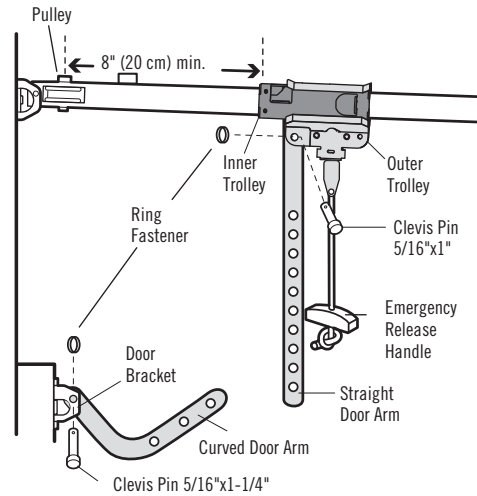

Figure 2
4. Bring arm sections together. Find two pairs of holes that line up and join sections. Select holes as far apart as possible to increase door arm rigidity (Figure 2).